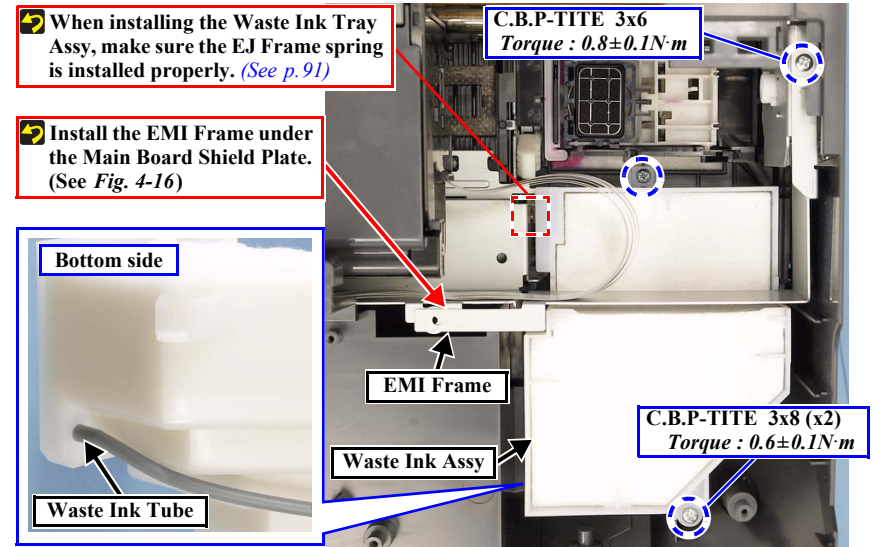

Figure 4-23. Removing the Waste Ink Tray Assy
4. Remove the screw and remove the EMI Frame. (Fig. 4-23)
5. Remove the screws (x2) that secure the Waste Ink Assy. (Fig. 4-23)
6. Disconnect the Waste Ink Tube from the Waste Ink Tray Assy, and remove the Waste Ink Tray Assy. (Fig. 4-23)